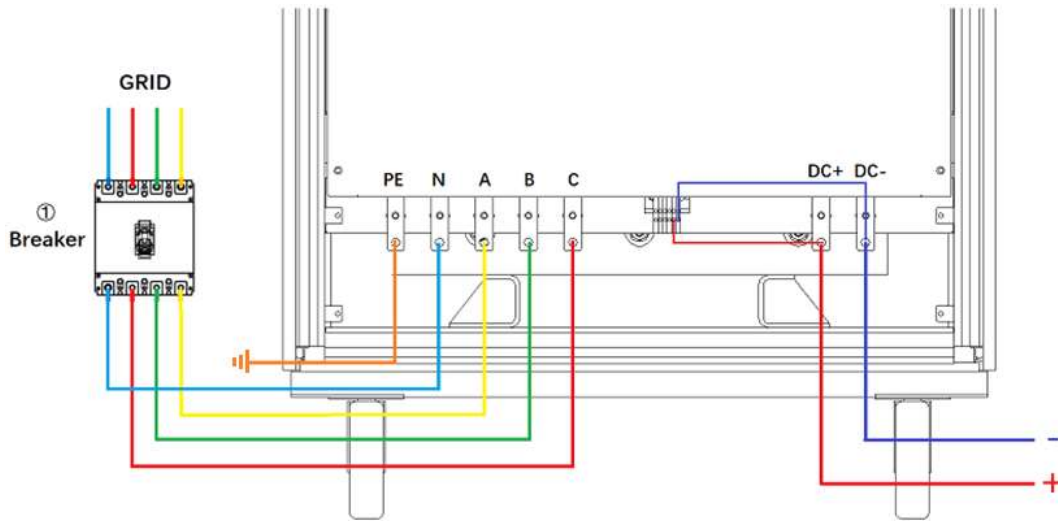

Figure 3-8
**Step 4:** Power off circuit breaker of the AC input side (Figure 3-8①).